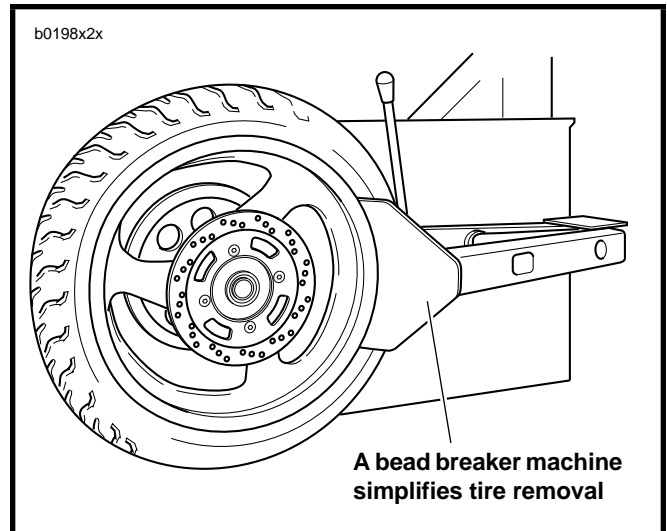

Figure 2-13. Loosening Beads from Rim Flange
3. See Figure 2-13. Loosen both tire beads from rim flange.